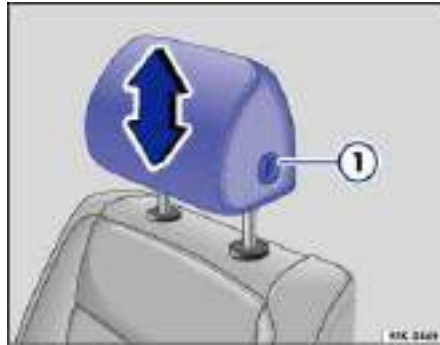
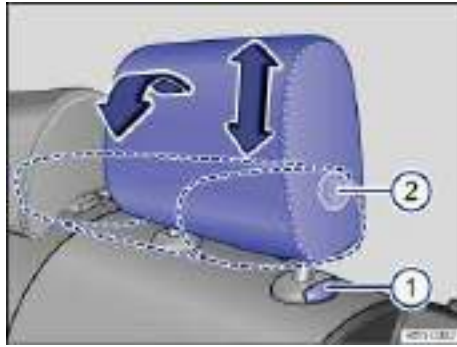

Fig. 46 Adjusting the front head restraints.
Fig. 47 Adjusting or folding the rear head restraints.
- Push the head restraint up in the direction of the arrow or down when the button ⇒ fig. 46 (1) or ⇒ fig. 47 (1) is pressed ⇒ ⚠.